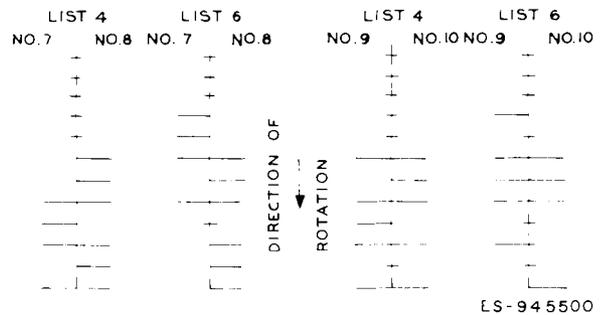

Fig. 5—Position of Bumpers on Bumper Wheels Involved in Converting KS-5546 L4 to L6 (Old Design)
(1) This conversion involves changing the position of the bumpers which operate the interrupter spring packs No. 7 and 9 so that the starting of these two codes will be delayed with respect to the other codes, as shown on the List 4 and 6 timing charts on the job drawing. It will be noted from the machine that each bumper wheel has bumpers on each side and that it operates two interrupter spring packs. Spring packs No. 7 and 8 operate from one wheel and 9 and 10 from the next wheel. No change is required in the position of the bumpers operating spring packs No. 8 and 10. Fig. 5 shows the relative positions of the bumpers for List 4 and for the change to List 6 as viewed from the bumper wheel end of the machine. There are 12 positions (tapped holes around each wheel). The vertical line represents the wheel, the long crosslines indicate bumpers on each side of the wheel, the shorter line a bumper on only one side, and the shortest line unused positions.